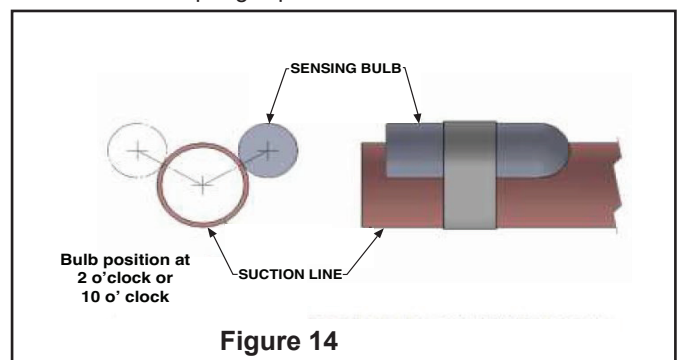

Figure 14
- The recommend installation position for the TXV bulb is parallel to the ground (on a horizontal plane). The bulb position should be at 2 o'clock or 10 o'clock. See Figure 14.